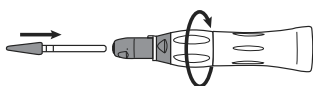

Fig. 2
1. Open collet by turning grip 1/4 turn (clockwise) as shown in Fig. 2.